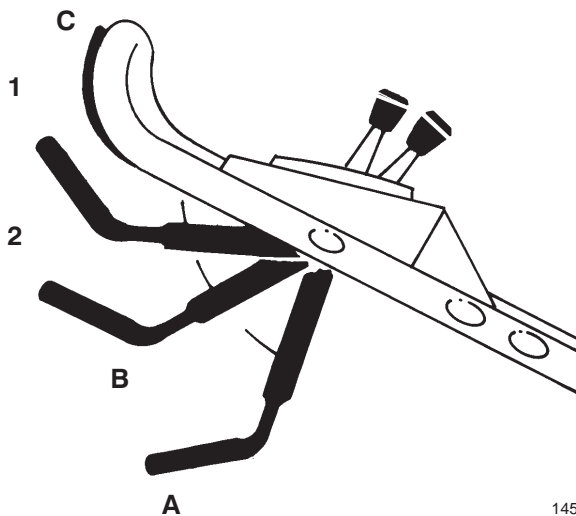

Figure 9
2. Move the control bar down to *A* and raise to *B* to engage the blade (Fig. 9).
3. Squeeze the control bar against the handle (*C*) to engage the traction drive (Fig. 9).
The ground speed varies depending on the space between the control bar and the handle. To disengage the traction drive but keep the blade engaged, gradually release the control bar to the middle position (Fig. 9).
Note: Do not shift speeds while squeezing the control bar against the handle in the *C* (drive) position (Fig. 9); this can damage the transmission. **Move the control bar to the middle position when you change the ground speed.**